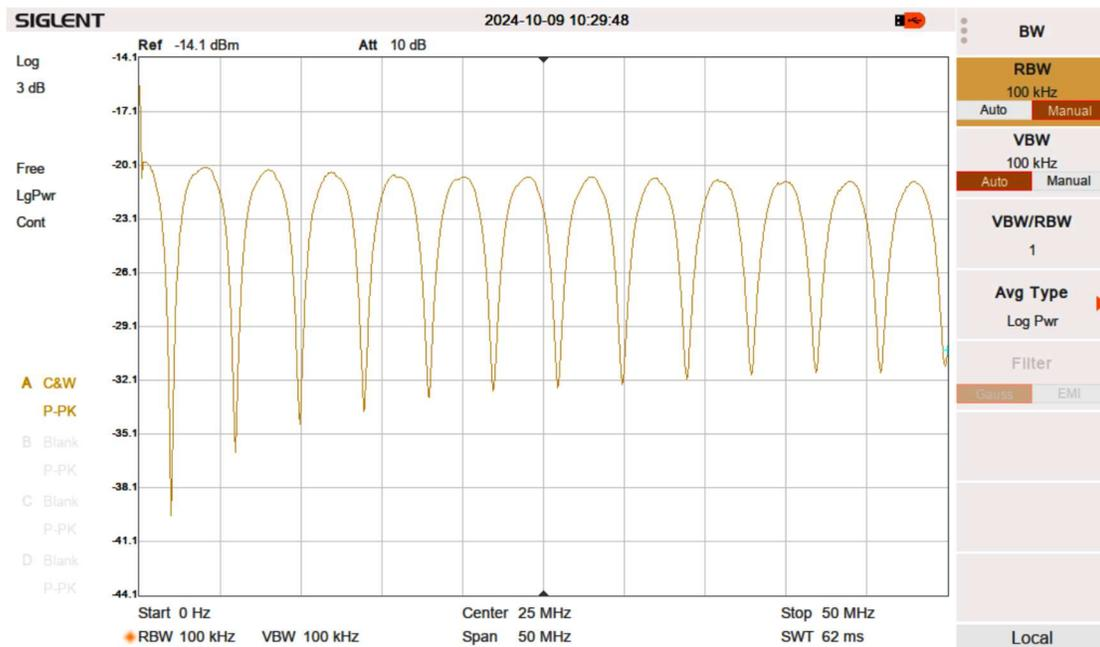

Figure 4. A measured transfer function for the setup shown in Figure 5. The periodic structure is caused by signal reflections in the long BNC cable.
Now press TG (Tracking Generator), set TG to on, and you should see a spectrum something like that shown in Figure 4. If you remove the long BNC cable from the circuit, the periodic signal goes away. What’s happening here is that the TG sends out a sinusoidal signal, and part of it goes into the long BNC cable. That signal reflects from the end of the cable and then comes back to the BNC T, where it interferes with the direct TG signal at that point. At some frequencies, you get constructive interference, at other frequencies you get destructive interference. The spectrum thus tells you something about the travel-time of the signal in the long cable. If you add a 50Ω “terminator” to the far end of the cable, this resistor absorbs the signal and prevents reflections. If you add a 75Ω terminator instead, then the terminator partially absorbs the signal, so some reflects back into the spectrum analyzer. We will discuss this topic later in this Track when we look at transmission lines in more detail.
**Exercise 5.** Reproduce the screenshot seen in Figure 4, but include a second trace on the same screen showing the signal with a  $75\Omega$  terminator at the end of the cable, and add a third with a  $50\Omega$  terminator. What happens when you replace the spool with a shorter open-ended cable (Hint: extend your spectrum to look at higher frequencies)? Add another screenshot describing what you observe.